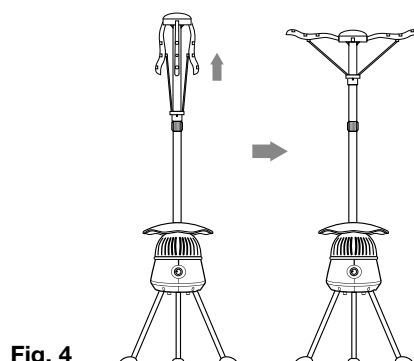

Fig. 4
4. In a similar way to opening an umbrella, push the top of the (E) Clothes Hanger upwards until the arms are fully horizontal and have clicked into place (see Fig. 4).